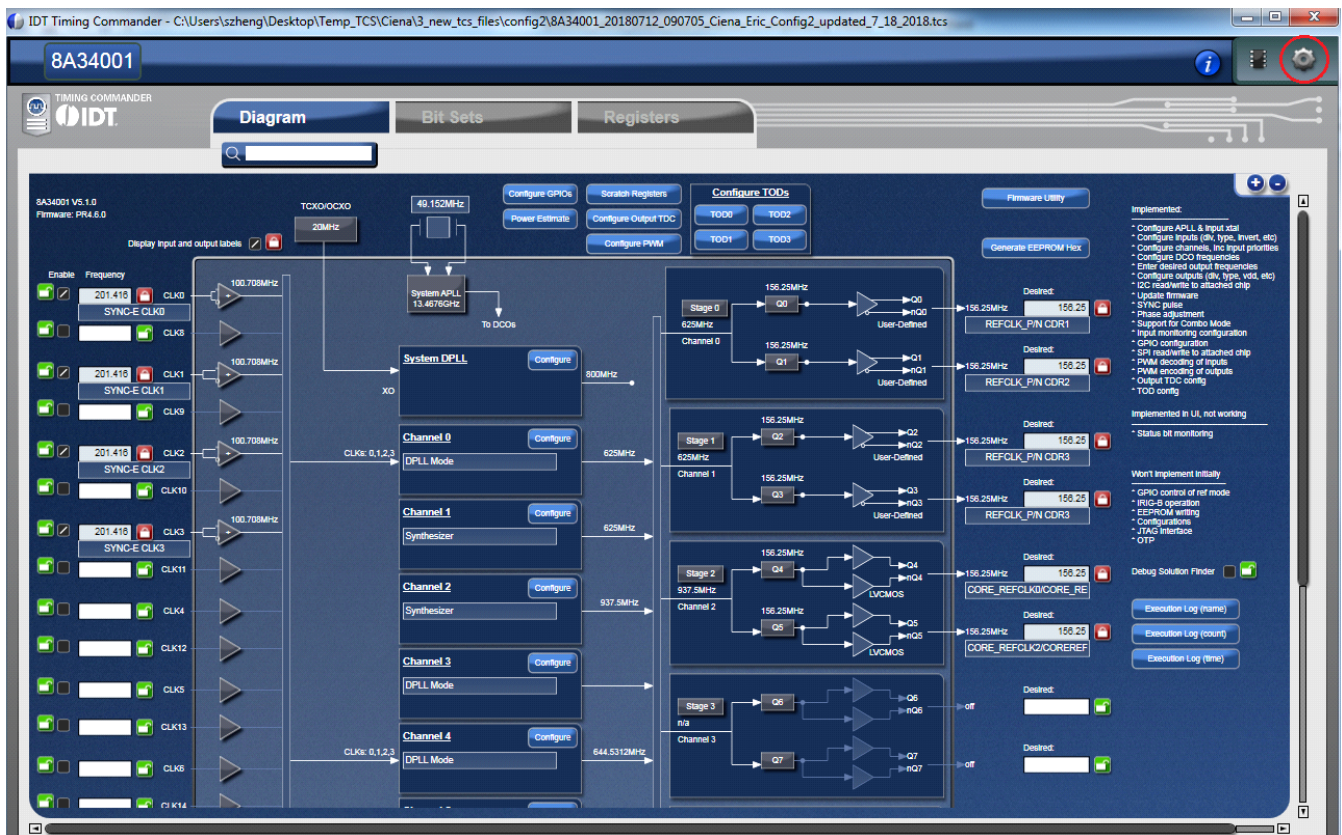
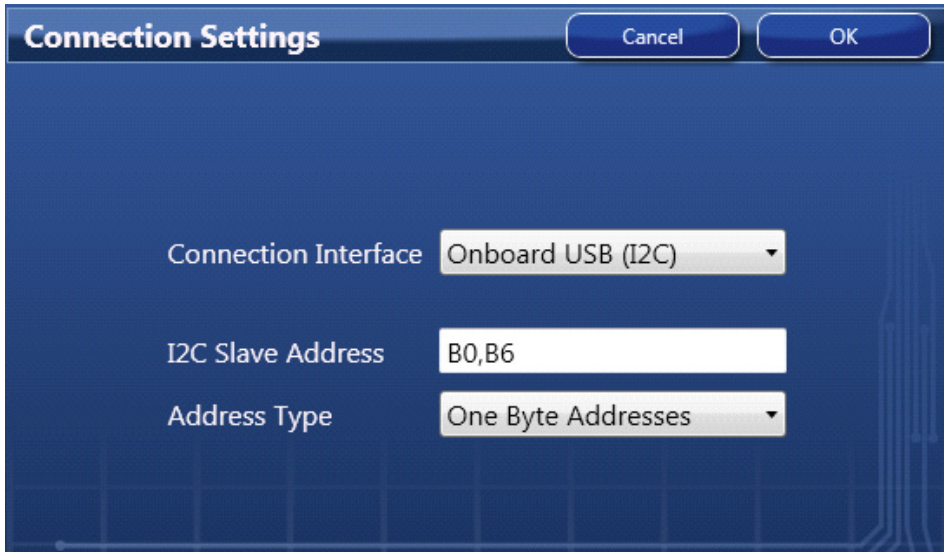

Figure 10. Timing Commander GUI with a Settings File Opened
Figure 11. Setting I2C for Connecting the Board with GUI
- The GUI window with the 8A34001 block diagram will open for configurations; or if “Open Settings File” is selected in Step 3 above, you will be prompted to browse and select an existing .tcs file and the personality file. When the configuration file is open, all configured values will be displayed as in Figure 10.
- In order to connect the board with Timing Commander (PC), click the button (red circle) at the up-right corner of the GUI to set up the communication protocols (see Figure 10). After I2C and one-byte addressing are selected, click OK to close the window (see Figure 11).